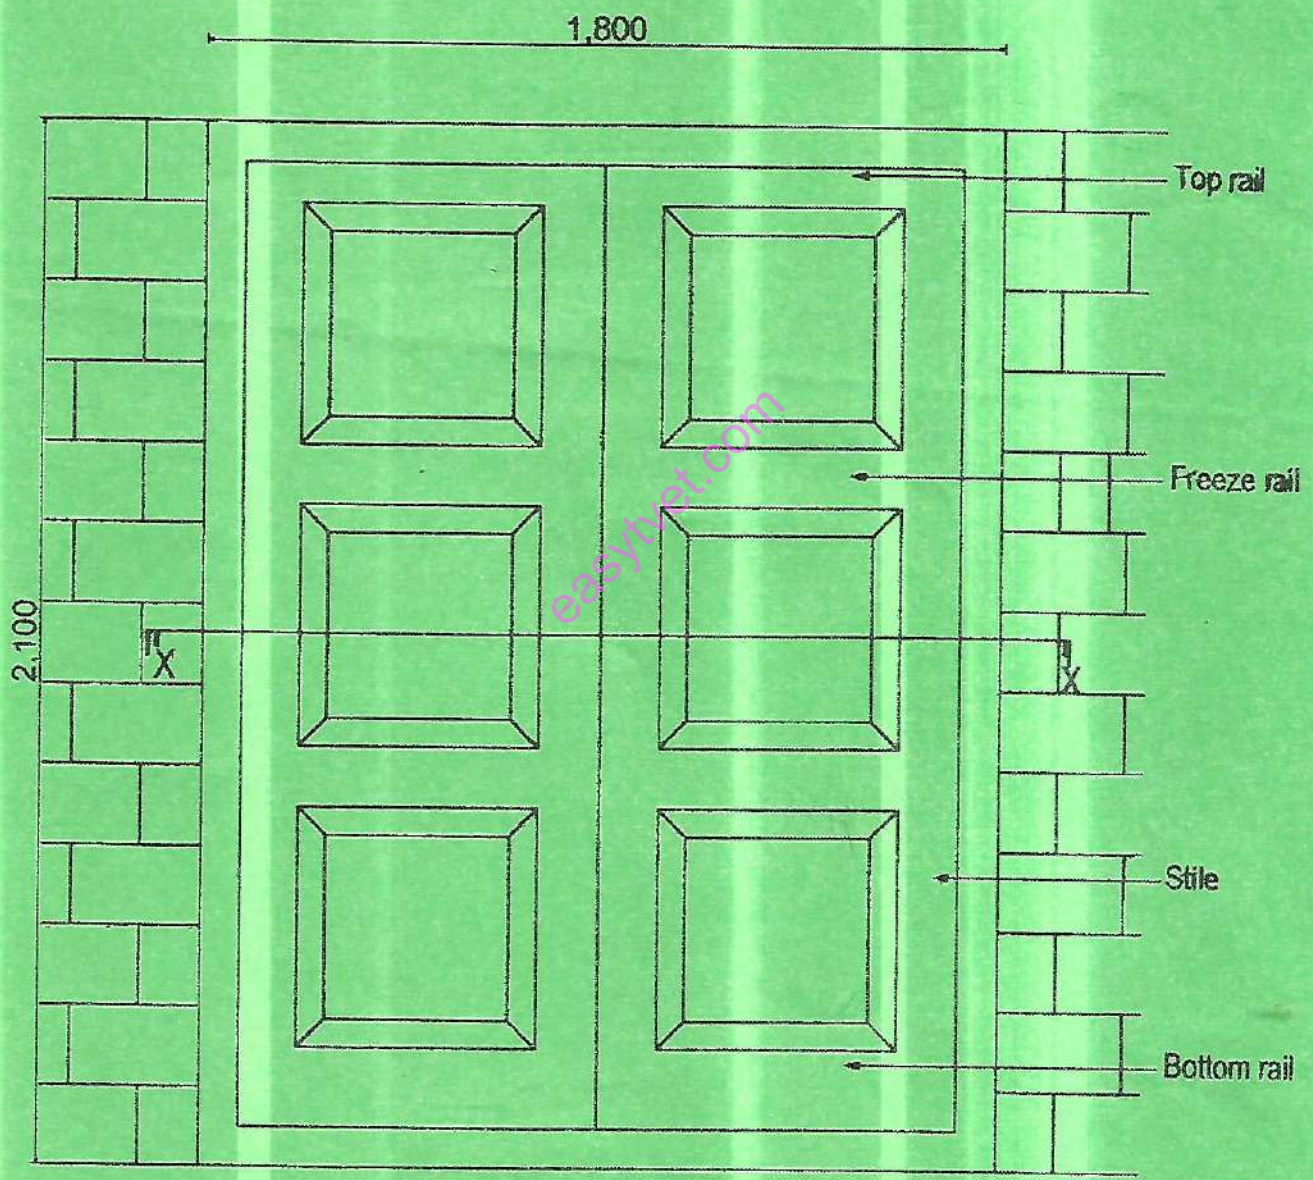

FIGURE 4
- (b) **Figure 4** shows a double-leaf six panelled door. To a scale of 1:10 draw section X-X using the data provided.